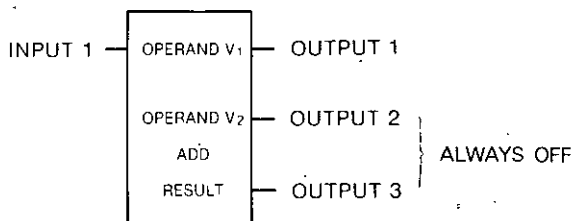

Fig. 5.29 ADD General Form
(2) Form
- Fig. 5.29 shows the form of addition (ADD)